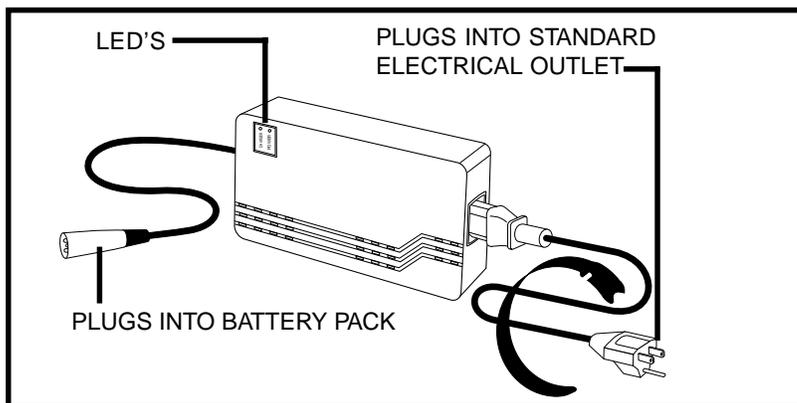

Figure 9. Off-Board Battery Charger
The off-board battery charger, when plugged into the charger power lead receptacle (located on the battery pack) and a standard electrical outlet, charges the Travel Scooter's batteries. See figure 9.
**NOTE:** *The LED lights on the charger indicate different charger conditions at various times. See figure 9. Refer to the operating instructions supplied with the charger for a complete explanation of these indicators.*